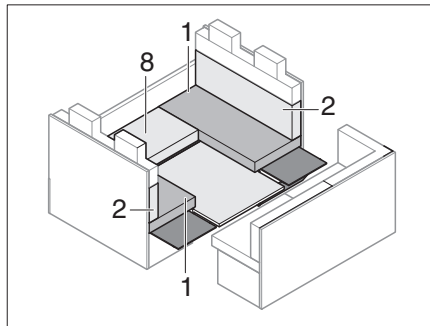

Fig. 201 During conversion
- Remove the seat cushion (Fig. 201,8) and the base.